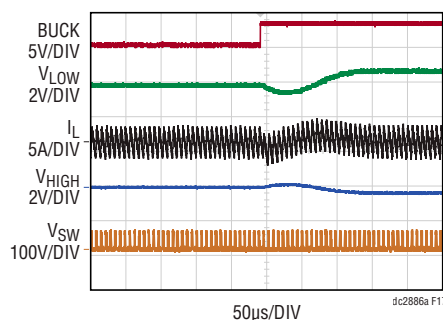

Figure 17. Boost to Buck Transition of the DC2886A Demo Board,  $I_{LOW} = 0A$ ,  $V_{LOW}$  Clamped at 10V,  $V_{HIGH}$  Clamped at 40V
4. Monitor SETCUR, IMON and  $I_{LOW}$  or  $I_{HIGH}$  while adjusting the SETCUR voltage. Figure 17 shows an example.